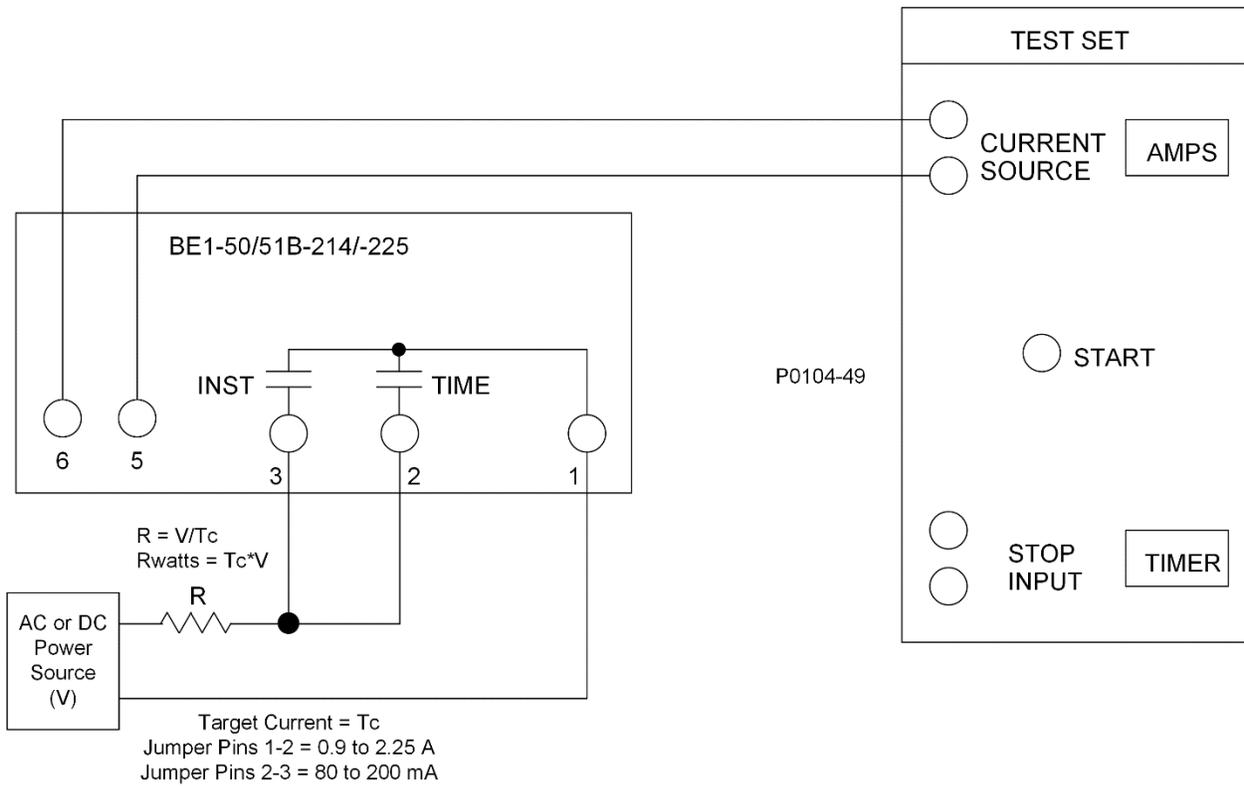
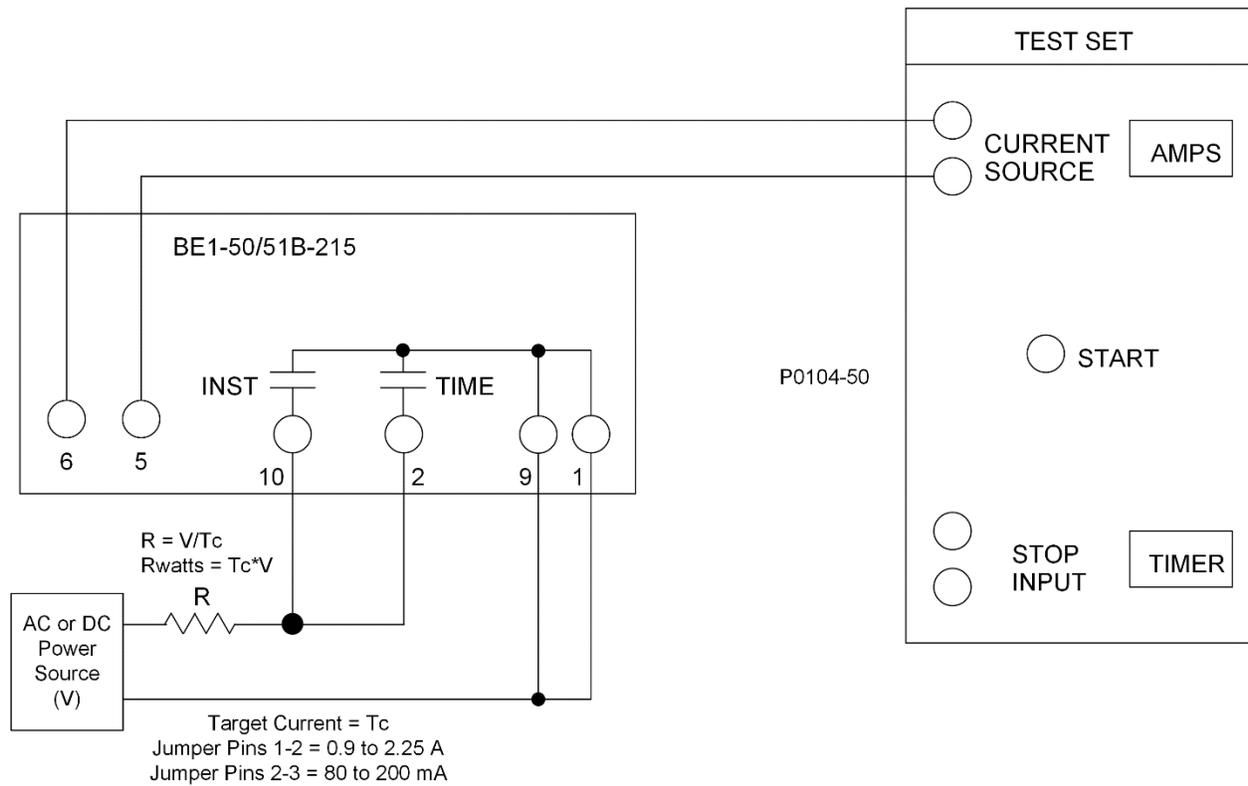
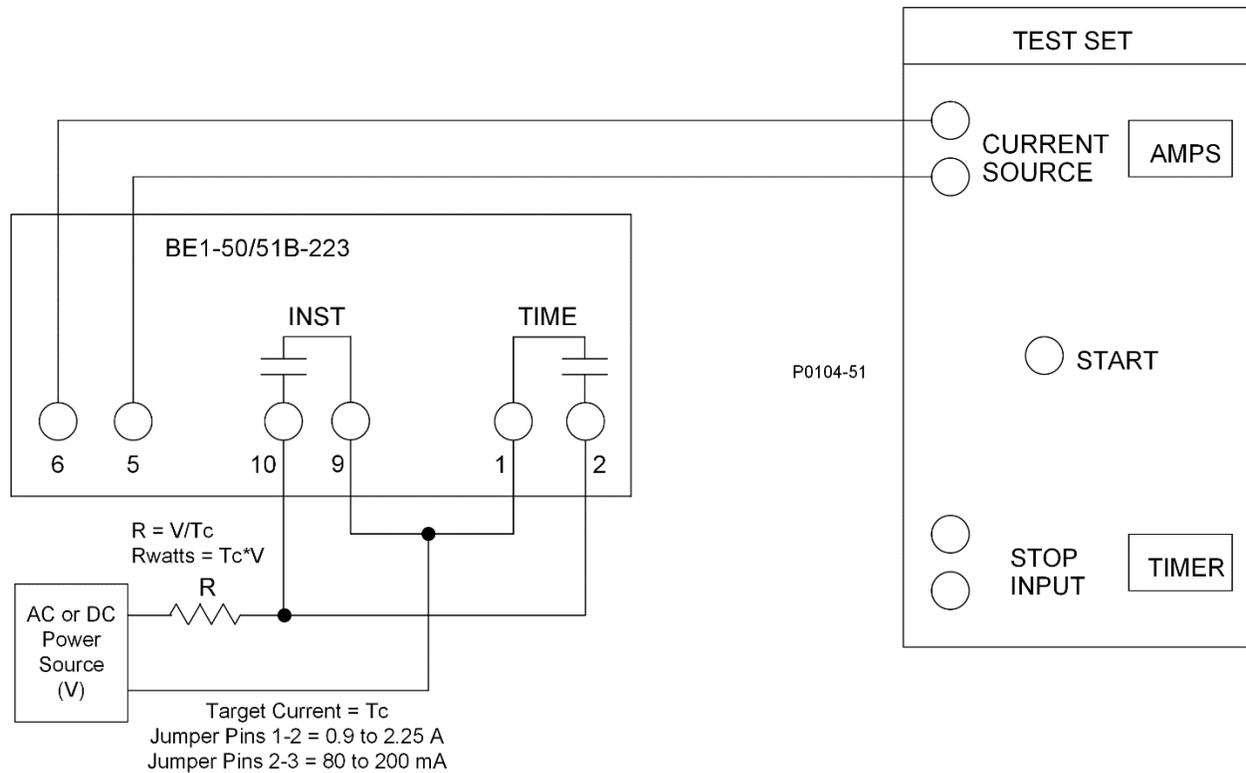

Figure 5-2. Target Operational Test Setup, BE1-50/51B-214/-225
Figure 5-4. Target Operational Test Setup, BE1-50/51B-215
Figure 5-6. Target Operational Test Setup, BE1-50/51B-223
- Connect test setup as shown in Figure 5-2 (BE1-50/51B-214), Figure 5-4 (BE1-50/51B-215), or Figure 5-6 (BE1-50/51B-223).